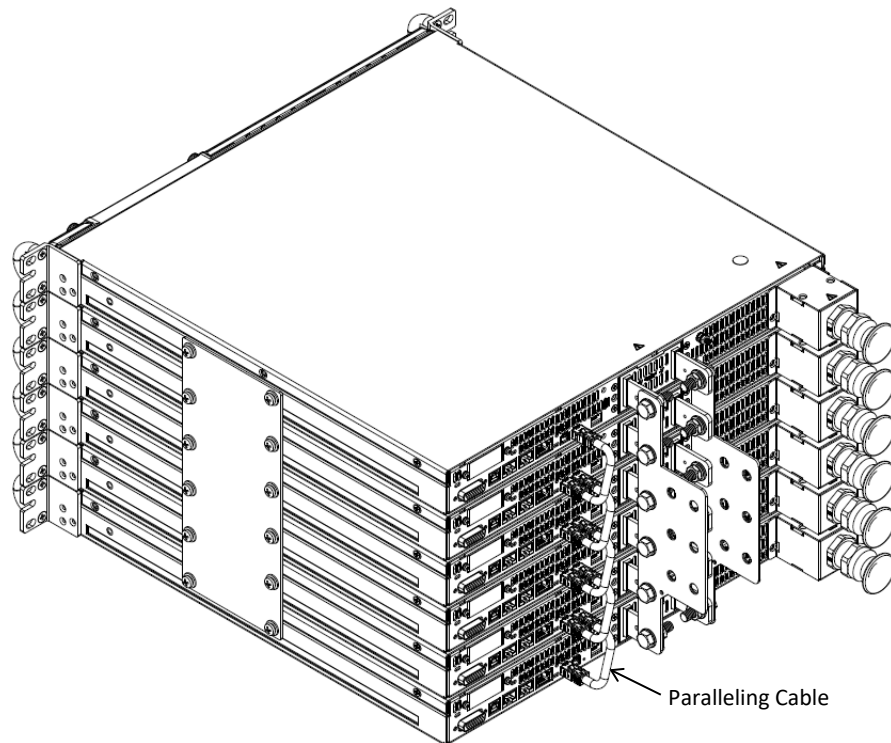

Figure 3: Six 60V÷100V Units Paralleling Cable Connection
3. Connect five paralleling cables from top unit M connector to bottom unit S connector as illustrated in Figure 3.